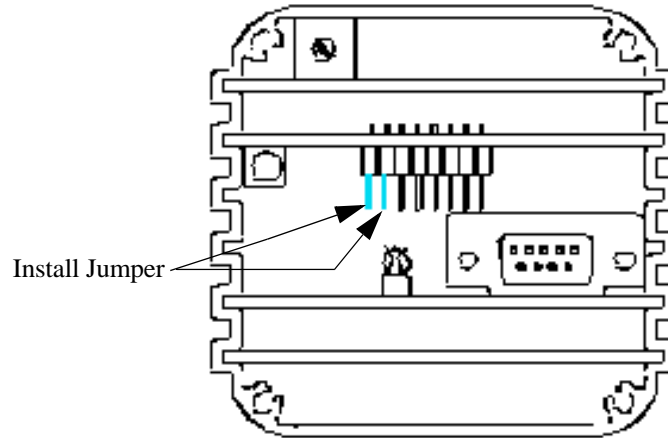

Figure 4-3 Jumper Installation Location (Cover Removed)
Make sure the jumper is installed only on the pins shown in Figure 4-3. Otherwise, damage to the Mini-Ion Module may occur.
5. Connect a jumper wire to the pins as shown in Figure 4-3.